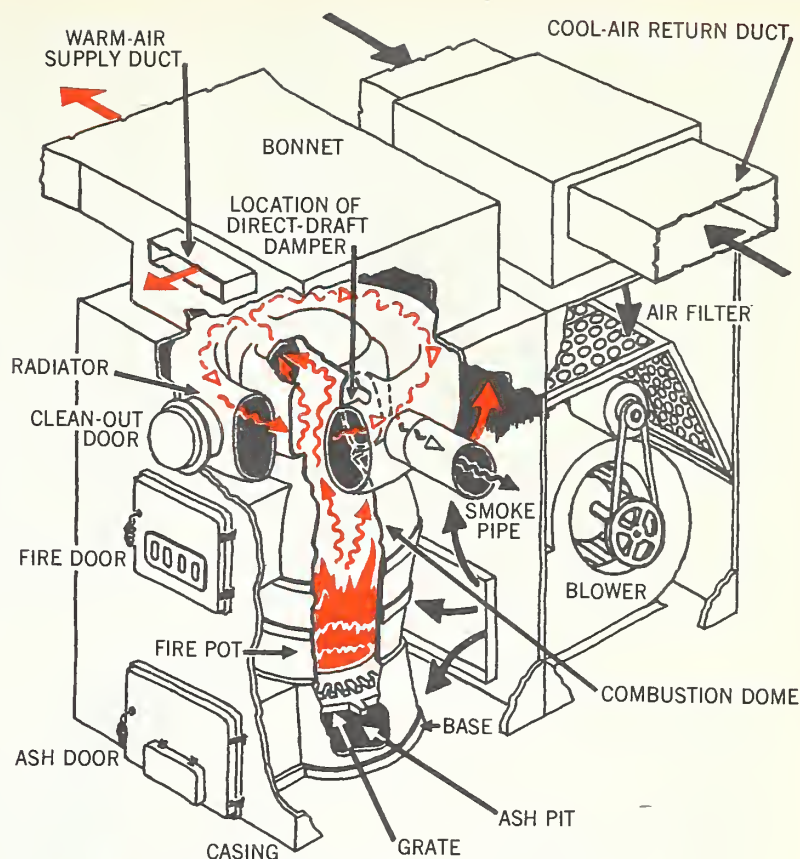
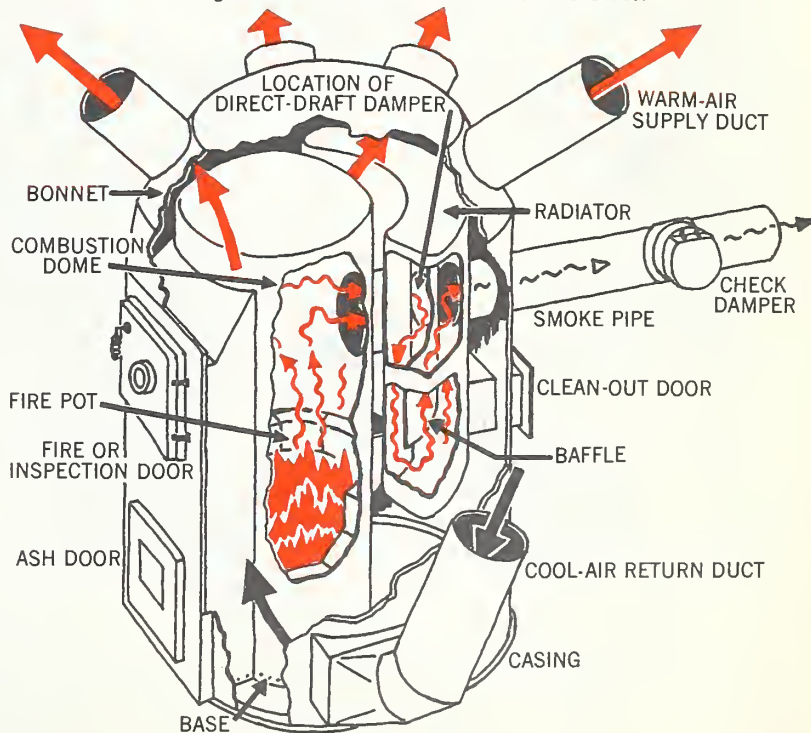
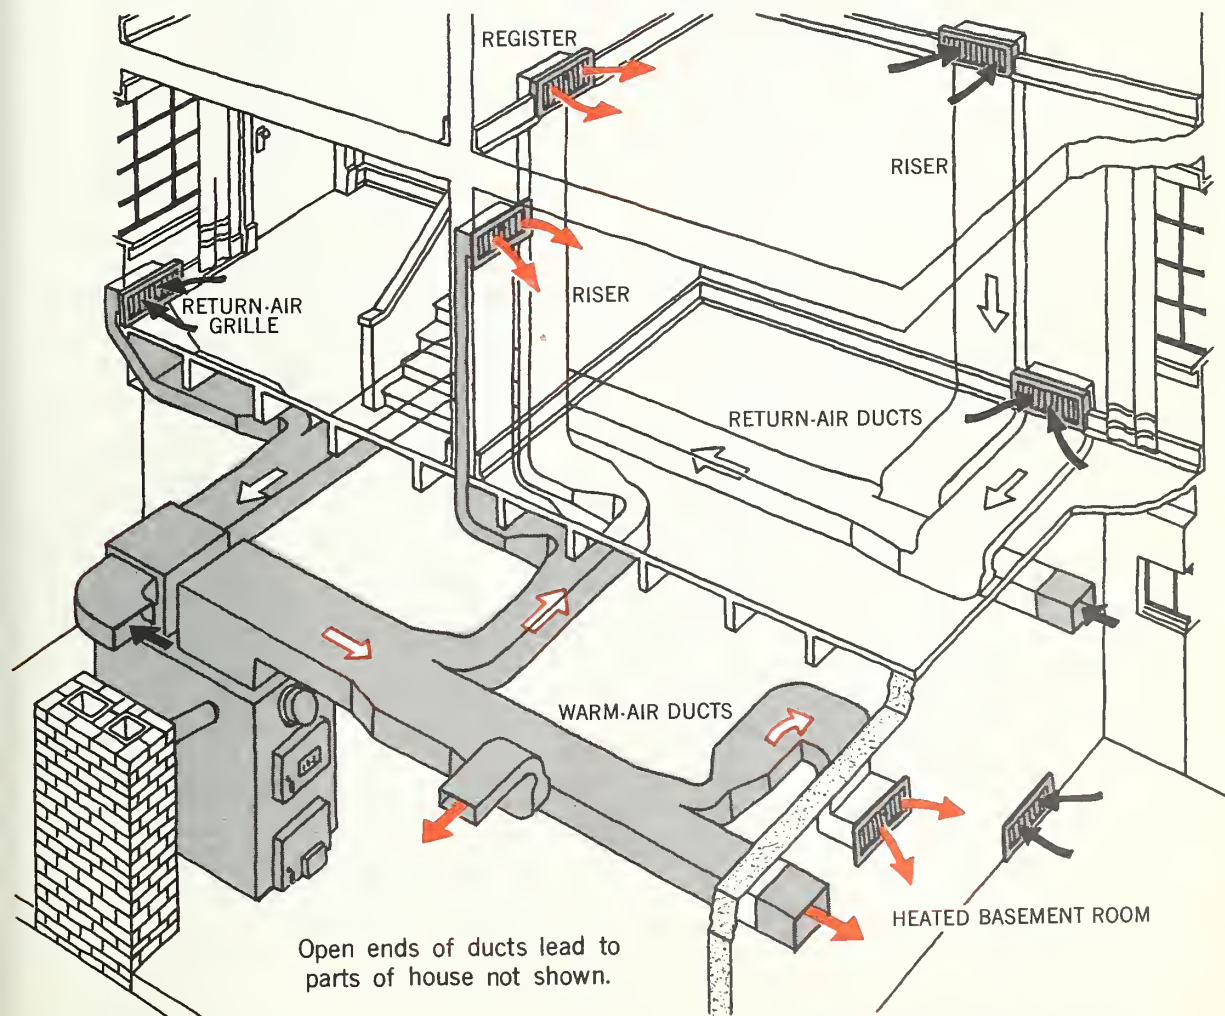

Figure 7.—Cast-iron furnace with blower.
Figure 8.—Steel furnace.
Figure 10.—Forced warm-air system.
A furnace is made of cast iron (fig. 7) or steel (fig. 8) and consists of a base, fire pot or hearth, combustion dome, and radiator. When solid fuels fired by hand are used, an ash pit and grate (fig. 7) must be included. These parts are surrounded by a galvanized-iron or enameled jacket on top of which is the bonnet. Air passes through the space between the fire pot wall and the outer shell, or jacket, receiving heat as it moves over the hot fire-pot walls. It is essential that the fire pot (combustion chamber) be tight to prevent the escape of smoke and gases. Air for burning may move through the furn-
**Forced Warm-Air.**—Warm-air systems with forced circulation (fig. 10) are more expensive but they have certain advantages. The furnace does not have to be below the rooms to be heated, nor centrally located, because circulation of air is controlled by a fan or blower (fig. 7). The greater air pressure means that an air filter can be used, ducts may be longer and narrower, may run horizontally, and need not be all the same length. Return-air grilles can be placed in the baseboards.